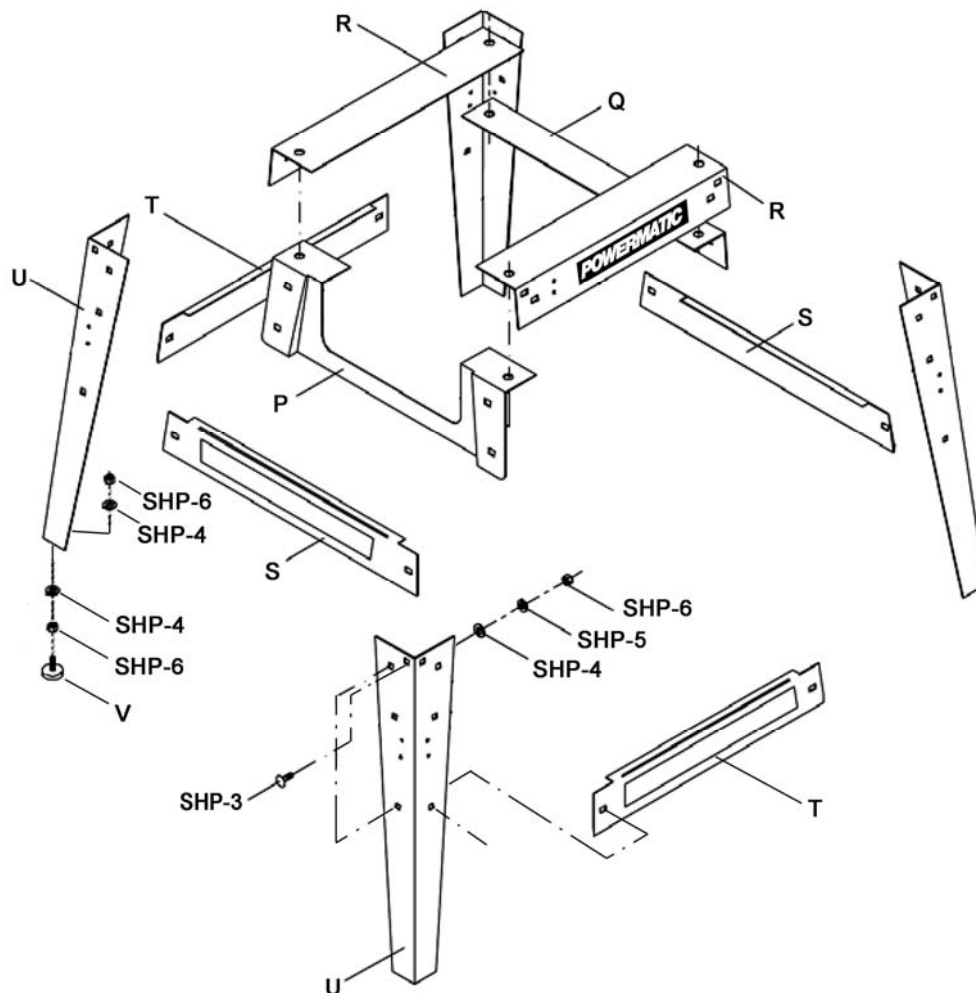

Figure 8
1. Assemble stand, using Figure 8 as a guide. Use the provided carriage bolts, flat washers, lock washers, and hex nuts (SHP-3/4/5/6).